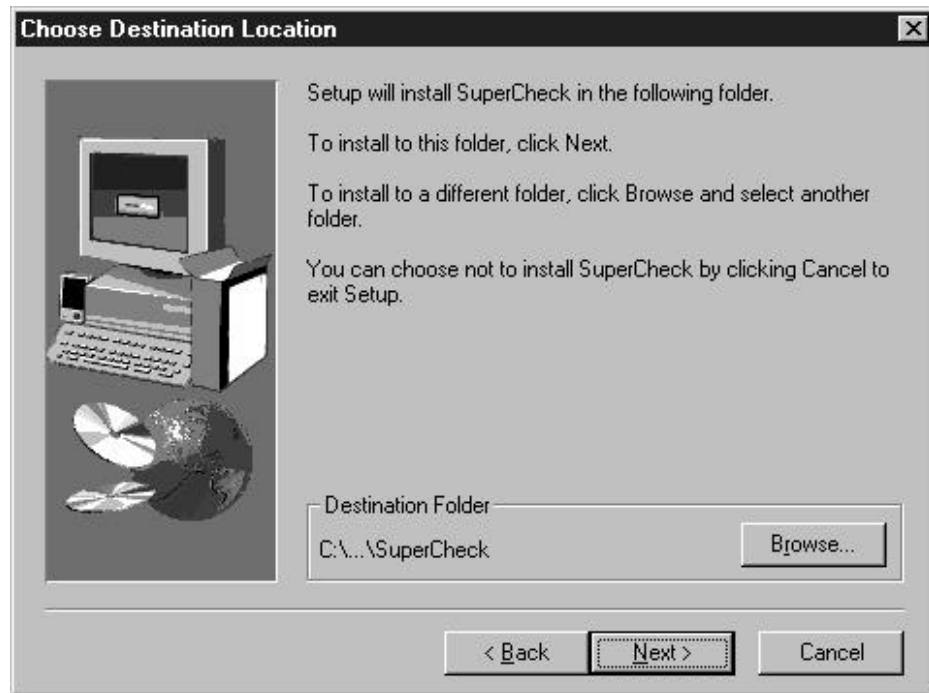

Figure 19: "Choose Destination Location" window
- 6) When the "Choose Destination Location" window (see Figure 19 below) comes up, choose a directory to install this component.